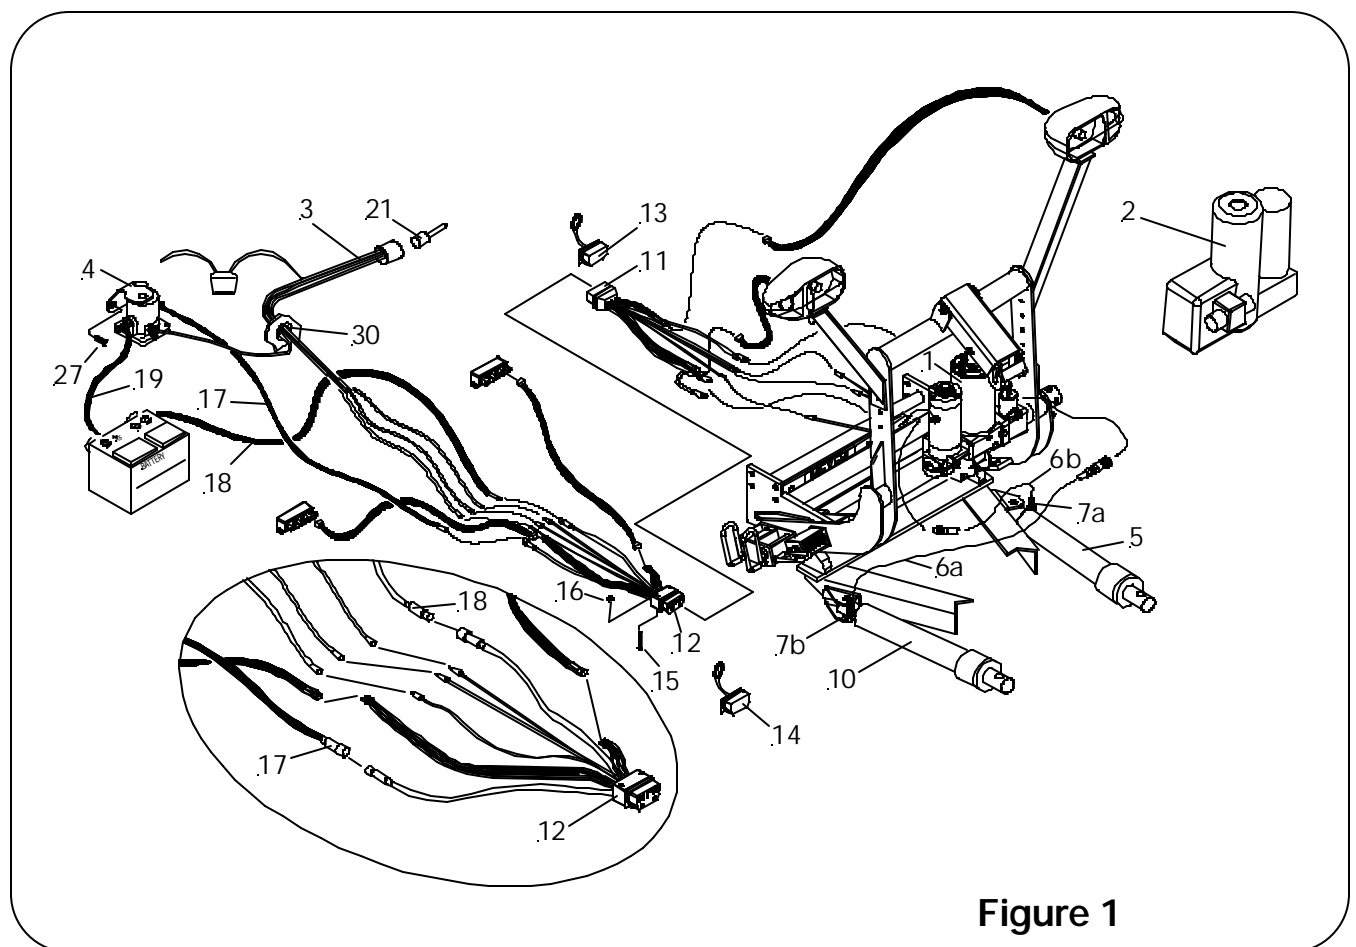

Figure 1
- J. Use Bushing (30) where Harness (3) is routed through firewall and radiator support panel. Requires 7/8" diameter hole. Be certain to route all wiring around hot or moving engine parts, and any sharp sheet metal. Protection must be provided to guard against wire damage at these points. All excess or loose wire must be neatly secured using wire ties. Fused lead from Wiring Harness (3) must be attached to terminal in fuse panel that is activated only when the ignition key is "on." The three colored wires in Harness (3), black, red and green must be connected to the black, red and green wires of the Male Plug (12). As per Figure 1.
- K. Install Starter Solenoid (4) to metal surface in engine compartment using Screws (27). (Solenoid must be grounded to operate). Attach Red Power Cable (17) to a large terminal on Starter Solenoid (4). Attach Black Ground Cable (18) to negative (-) terminal of battery. Route both Cables (17 & 18) towards Male Plug (12). Plug Cables (17 & 18) into the corresponding cables coming out of Plug (12). As per Figure 1. Attach 36" Power Cable (19) to positive (+) terminal of battery and remaining large terminal on Starter Solenoid (4). Attach small white wire from harness (3) to small terminal on Starter Solenoid (4).
Route Cables "C" (Yellow) from module to Male Plug (12). Connect both "C" Harness female ends to the male corresponding ends of the Male Plug (12). As per Figure 1.